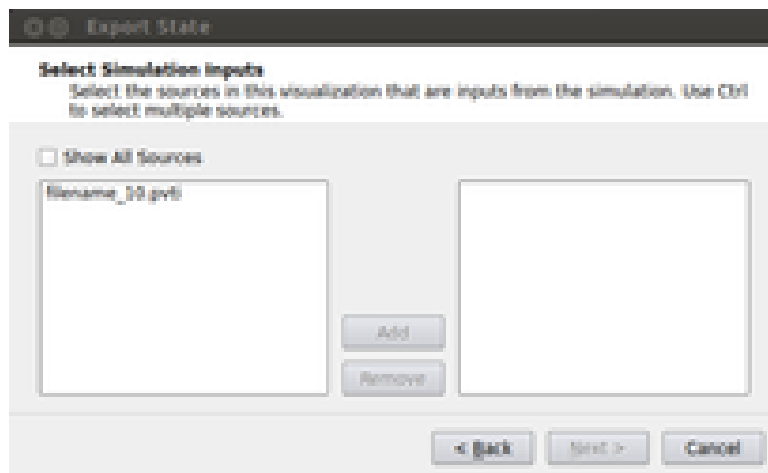

Figure 2.3: Selecting filename_10.pvti as an input for the Catalyst pipeline.
4. After that, the user must select the sources (i.e. pipeline objects without any input connections) that the adaptor will create and add them to the output. Note that typically this does not include sources from the `Sources` menu since the generated Python script will instantiate those objects as needed (e.g. for seeds for a streamline). In the case shown in Figure 2.2 the source is the `filename_10.pvti` reader that is analogous to the input that the simulation code's adaptor will provide. The user can either double click on the desired sources in the left box to add them to the right box or select the desired sources in the left box and click Add. This is shown in Figure 2.3 below. After all of the proper sources have been selected, click on Next.